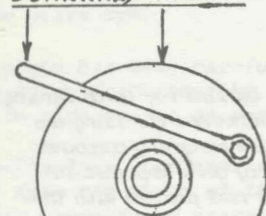

FIG. 14: REMOVING THE CROWN WHEEL/DIFF. CAGE BOLTS.
If a suitable vice is not available, a piece of timber can be employed instead. An offcut of 25 mm pine, 150 mm wide and 300 mm long would be best. Place the differential on the offcut so that the differential is resting on the outer circumference of the crown wheel and the protruding end of the output shaft. By fitting a spanner "across the crown wheel" as in Fig. 14 to the retaining bolts (99) in turn, the bolts usually give before the crown wheel turns on the board. In exceptional circumstances, it may be necessary to have a second person assist in holding the differential on the board.